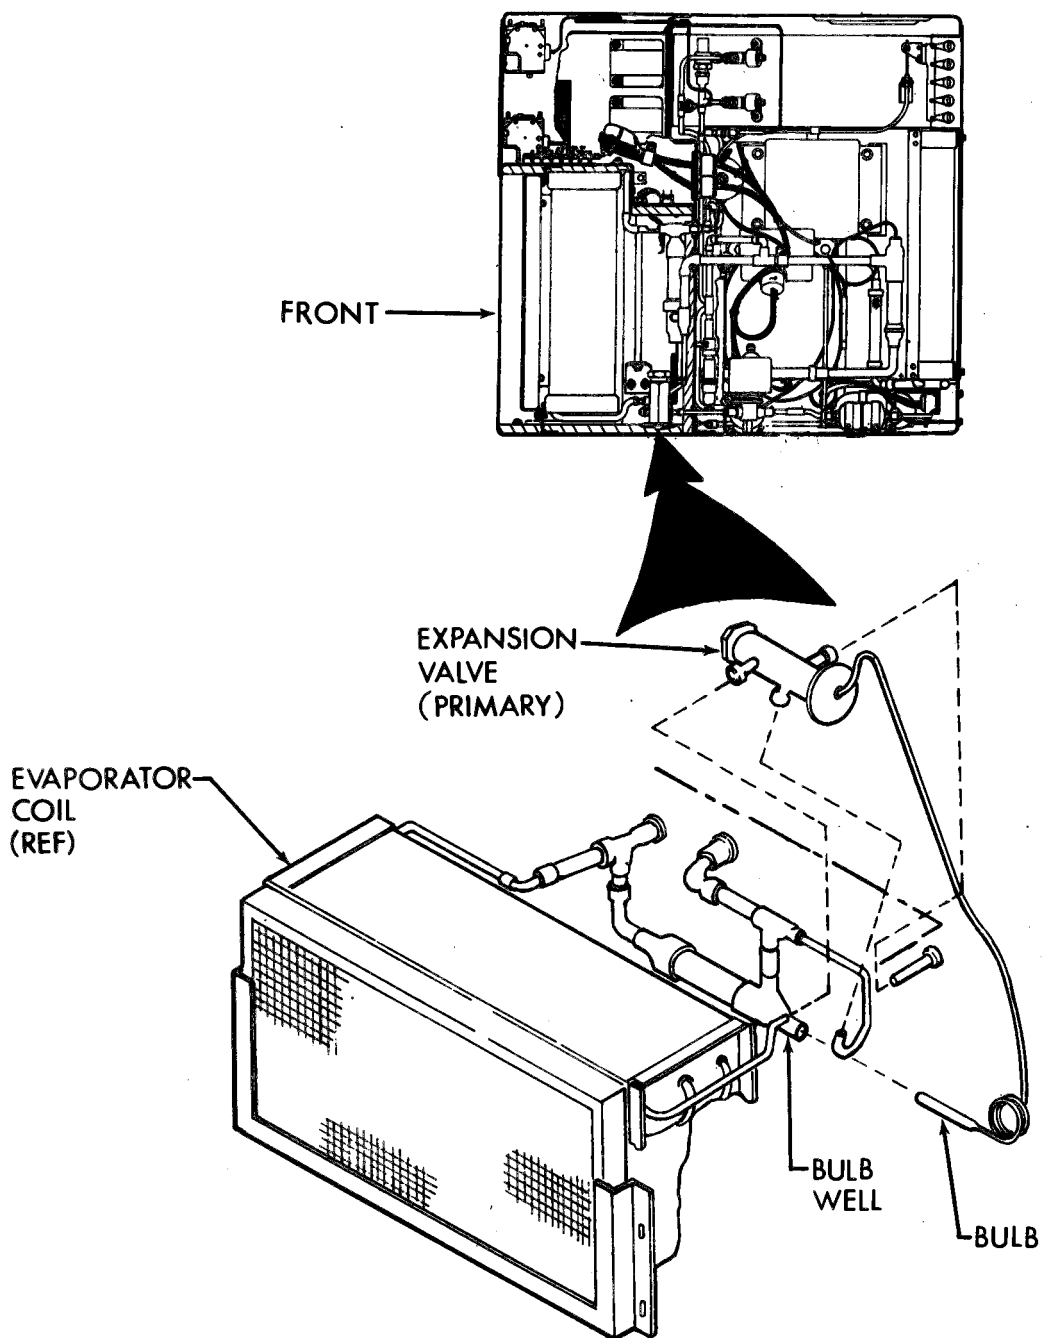

Figure 5-10. Expansion Valve (Primary)
a. Removal. (See fig. 5-10.)
(1) Disconnect power at power source.
(2) Remove top front cover (para 4-11).
(3) Discharge and purge refrigeration system per paragraphs 5-11 and 5-12.
(4) Unwrap insulation from joints of expansion valve.
(5) Soften thermal mastic in the bulb well using a cloth wrung out in hot water, a heat lamp, or heat gun if necessary and withdraw bulb from bulb well.
(6) Debraze three tube connections to valve.
(7) Remove valve from unit.